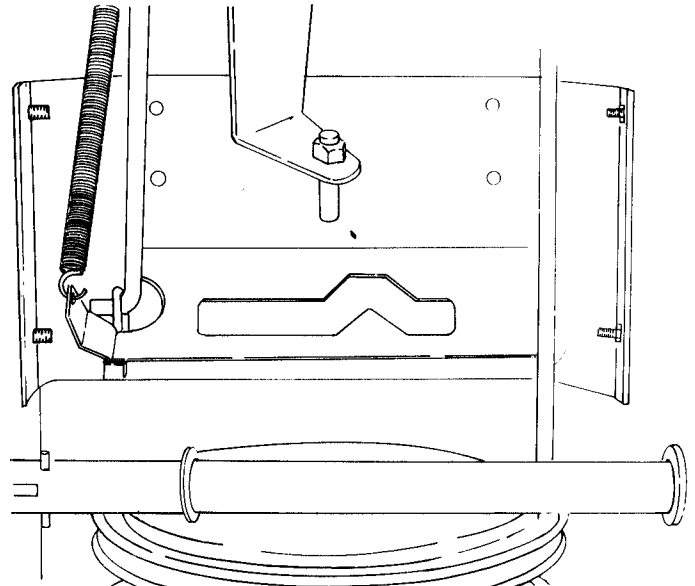

FIGURE 3.31 — YOKE AND FRAME BRACE DETAIL
**STEP 2:** Unhook the spring from the spring bracket, and disconnect the traction bellcrank and push rod (Figure 3.31).